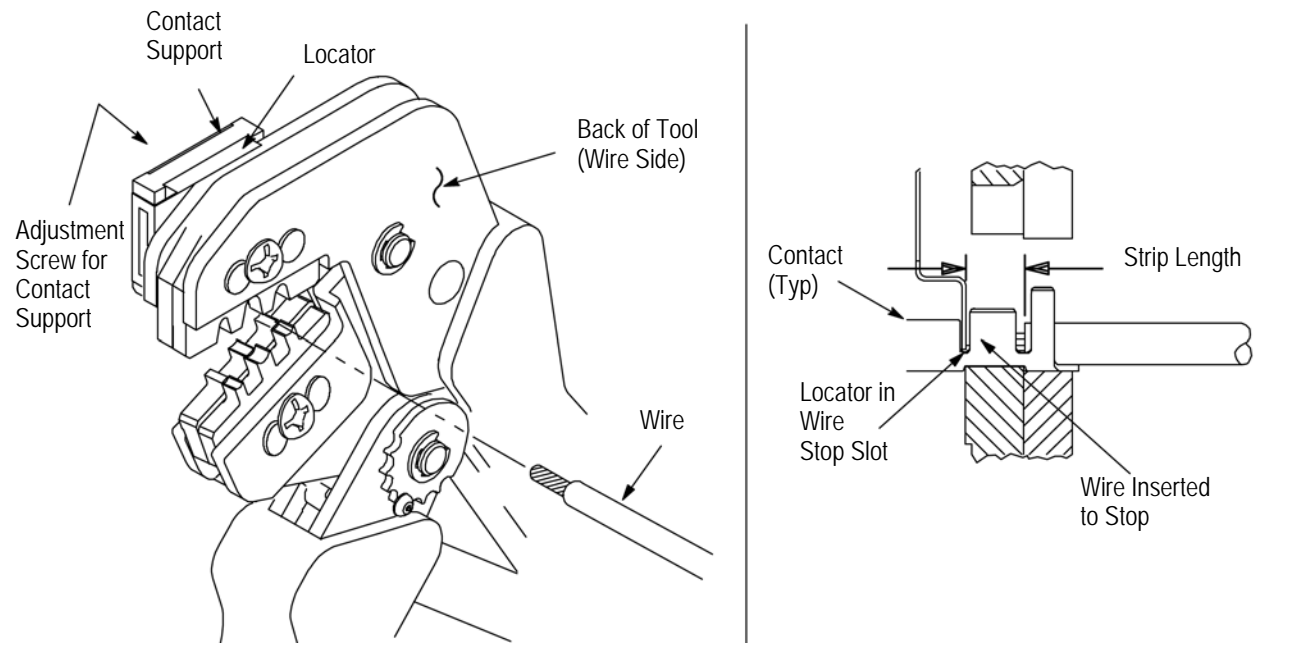

Figure 3
**4. CONTACT SUPPORT ADJUSTMENT** (Figure 3)
Refer to the table in Figure 1 and select wire of the specified size and insulation diameter. Strip the wire to the length indicated in Figure 1, taking care not to nick or cut wire strands. Select an applicable contact and identify the appropriate crimp section according to the wire size markings on the tool. Refer to Figure 3 and proceed as follows:
3. Position the contact so that the mating end of the contact is on the locator side of the tool, and so that the open "U" of the wire and insulation barrels must face the top of the tool. Place the contact up into the nest so that the movable locator drops into the slot in the contact. Refer to Figure 3. Butt the front end of the wire barrel against the movable locator.
5. Insert stripped wire into contact insulation and wire barrels until it is butted against the wire stop, as shown in Figure 3.
*The crimped contact may stick in the crimping area, but the contact can be easily removed by pushing downward on the top of the locator (see Figure 3).*